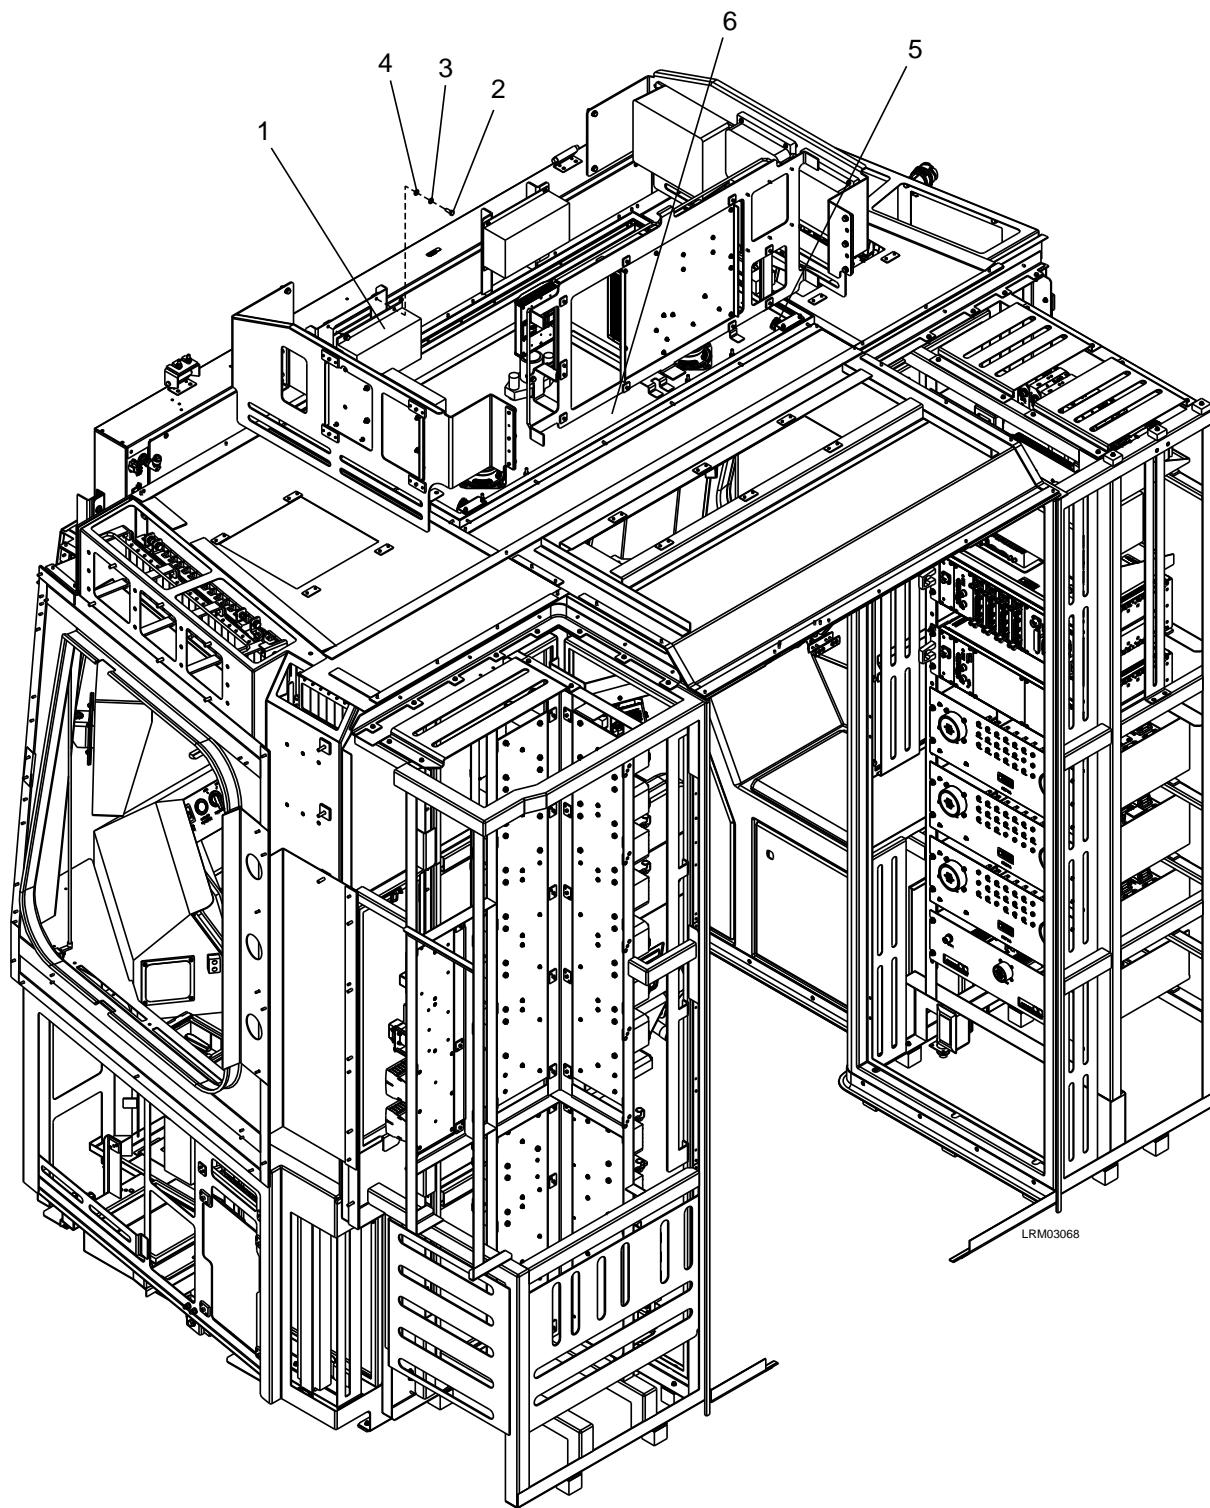

Figure 7-66: DC / DC Converter
1. Unlock the two locks (5) and lower the cab ceiling panel (6) to access the DC / DC Converter (1) and disconnect the electrical connector. See Figure 7-66.
2. Remove the four M6 x 16 bolts (2), M6 lock washers (3), and M6 plain washers (4).
3. Carefully remove the DC / DC Converter (1).